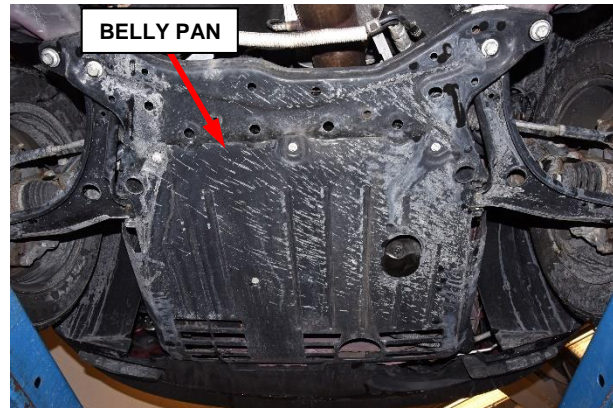

Figure 7 – Engine Compartment Belly Pan
9. 2.0L engines, if equipped with an engine compartment belly pan remove the belly pan (Figure 7).